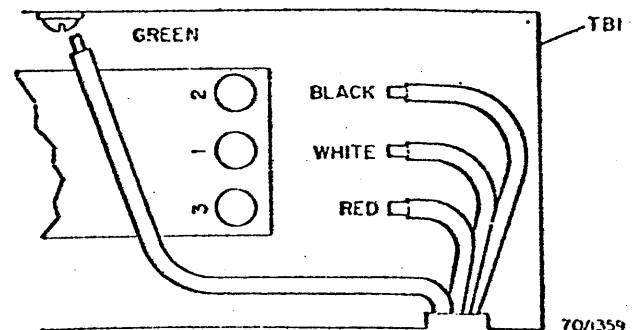

Fig. 2-7. Electrical Connection to Machine
2. Pass power cord through strain relief and connect to TB1 as shown in Fig. 2-7.
11. With VOM set to 300-volt scale, check reading between pins 2 and 3 on TB1 (Fig. 2-7). Record this voltage.